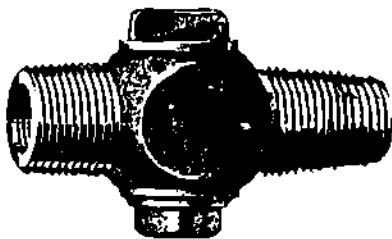

Figure 7-14. Corporation Stop
1. This valve (Figure 7-14) is used when tapping into a water main that is under pressure.